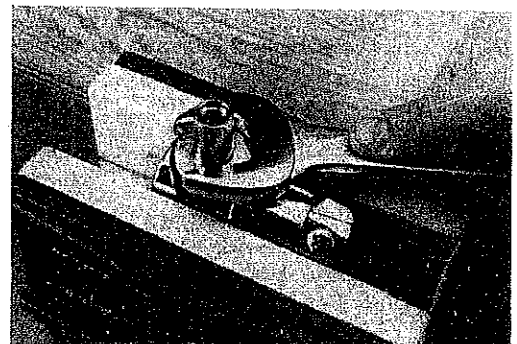

Fig. 9A
5. The coupler wheel(14) may now be lifted straight off the filter housing(16) and set aside. Apply a 1" open-end wrench to the flange at the base of the filter housing. Using firm, steady force, loosen in a counter clockwise direction to remove. DO NOT use impact to loosen. (See fig. 9A.)